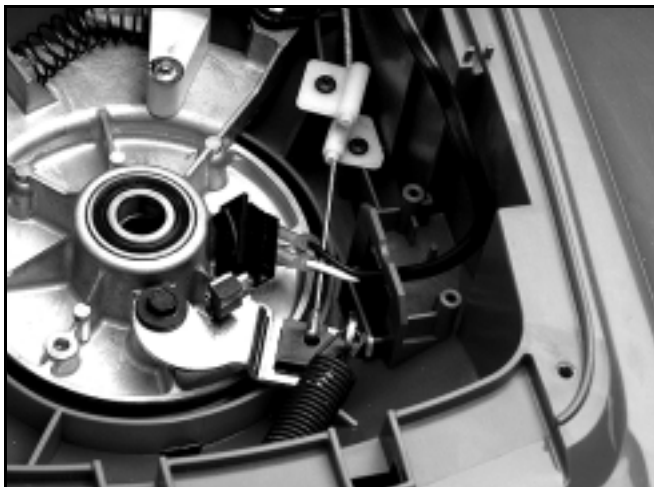

Figure 55
4. There is a bracket supporting and guiding the cable near the switch end. This guide bracket is slotted so the cable inner wire can be removed without removing the bracket (Figure 55).